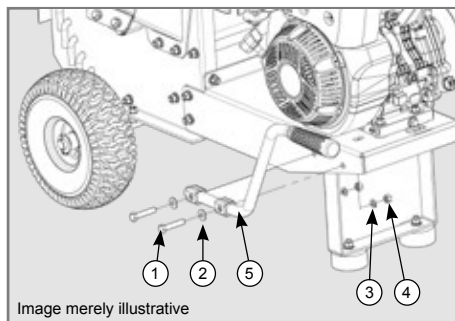

Figure 3
- ✓ To mount the carrying handle proceed as shown in Figure 3: Remove the carrying handle (5) from the packaging and position it in its place. Mount the bolt (1) the ferrule (2 and 3) and the screw (4). Do the same on both cables and tighten as necessary, as indicated in the torque table.
- ✓ In the upper feed funnel (Item 2 Figure 3) can be placed only branches with a maximum diameter Ø 3.0 cm. Materials from 3 cm up to 8 cm in diameter should be crushed in the side feed hopper (item 1 Figure 3).